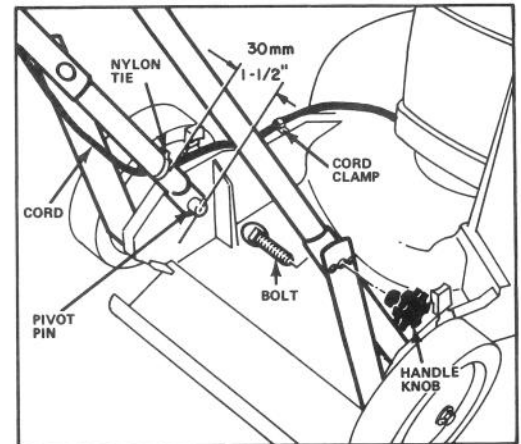

Figure 1
1. Push ends of lower handle together and install on pivot pins (Fig. 1). Insert bolts through hole in handle latches and install handle knobs (Fig. 1). Tighten securely. Assure electric cord runs between handle and handle latch (Fig. 1).
2. Secure electric cord to handle with a nylon tie (Fig. 1). Nylon tie to be positioned approximately 1-1/2" above handle pivot pin. Before tightening nylon tie, pull electric cord tight between nylon tie and cord clamp on mower housing (Fig. 1). CORD MUST NOT TOUCH WHEEL DURING OPERATION.